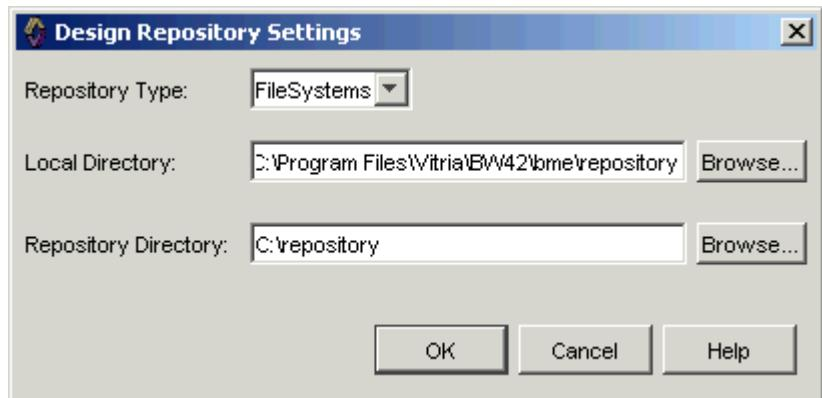

Figure 4-1 Design Repository Settings
4. Browse to set the **Local Directory**, as shown in Figure 4-1, and select the directory that will serve as your local cached copy of the repository contents.
5. Browse to set the Repository Directory, as shown in Figure 4-1, and select the directory where the repository contents are located.